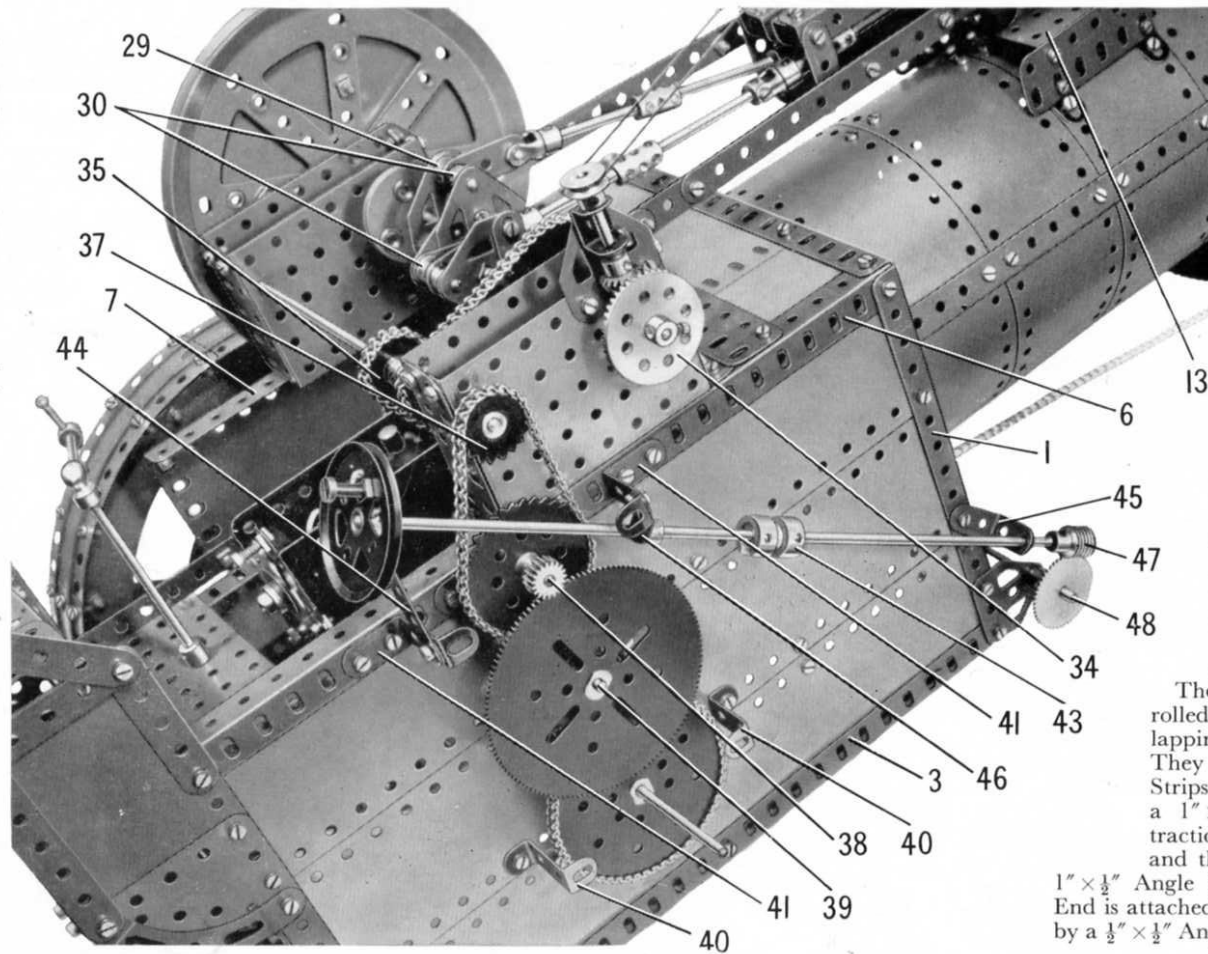

FIG 8. The off-side of the Traction Engine with the rear wheel removed to reveal the drive to the back axle
mounted in the side of the body and in a Double Bent Strip bolted inside the girder (6). The Rod is held in place by a Collar. A $\frac{1}{2}$ " Pinion is also fixed on Rod (38) and meshes with a $3\frac{1}{2}$ " Gear on a $3\frac{1}{2}$ " Rod (39), which is supported in the side of the body and in a $2\frac{1}{2}$ " Angle Girder bolted to the girders (21) (Fig. 4). Rod (39) carries between the Gear and the body, a $\frac{3}{4}$ " Sprocket, and this is linked by Chain to a 3" Sprocket on the rear axle. A cover over the gearing is provided by a $5\frac{1}{2}$ " \times $3\frac{1}{2}$ " Flat Plate that is bolted to 1" Reversed Angle Brackets (40) (Fig. 8) and to Angle Brackets fixed to 1" \times 1" Angle Brackets (41).
The steering column is a made-up rod formed by two $6\frac{1}{2}$ " Rods, each of which is fitted with a Collar at one end. The Collars are gripped in a Socket Coupling (43) (Fig. 8) and the complete rod is mounted in a $2\frac{1}{2}$ " Strip (44), a 1" \times 1" Angle Bracket (45), and an Obtuse Angle Bracket (46). The rod carries at its lower end a Worm (47), and this meshes with a 50-tooth Gear on a made-up rod (48) (Fig. 4), consisting of two $4\frac{1}{2}$ " Rods joined by a Coupling. The rod is mounted in Flat Trunnions bolted to the body, and it carries a drum formed by two Sleeve Pieces, each of which is fitted at its inner end with a Chimney Adaptor that fits over the Coupling. A $\frac{3}{4}$ " Flanged Wheel is pressed over each end of the drum and is fixed on rod (48). An endless length of Sprocket Chain is passed several times round the drum, and round the Toothed Disc of the front wheel assembly.